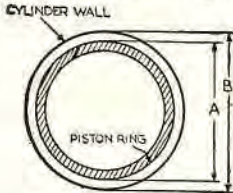

Fig. 12 (left.)
The term "diametrical clearance" means the difference between the diameter of the cylinder wall (the bore) and the outside diameter of the piston ring (gap closed). In Fig. 12 the diametrical clearance is the distance (B) minus the distance (A).